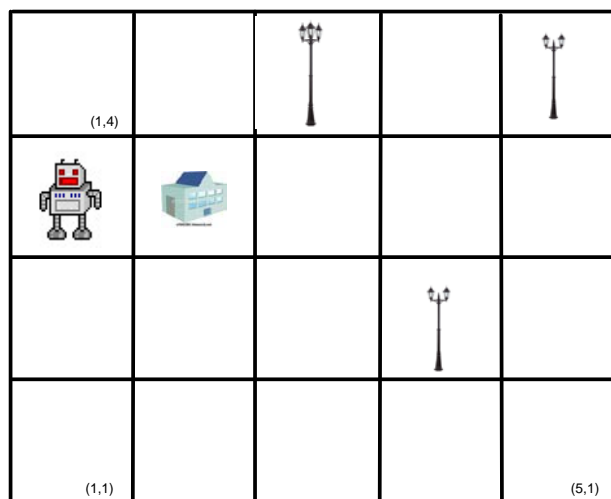

Fig. 1. Example of initial state
We have a robot, several lampposts with blown bulbs and a bulb warehouse, lying on a grid as shown in Figure 1. Each lamppost may have several blown bulbs. The objective is that the robot loads bulbs at the warehouse to replace blown bulbs. The robot must not carry bulbs when all blown bulbs have been replaced.
An example of this initial state is shown in Figure 1. The robot and the warehouse can be located anywhere on the grid; the number of lampposts, their location as well as the number of blown bulbs in each lamppost can be different for a given initial state. The size of the grid can be defined for a given initial state.
The solution to this problem does not need to represent the number of bulbs in each lamppost, only those that have blown. In Figure 1, there are three lampposts with 3, 2 and 2 blown bulbs.
The robot can only move horizontally and vertically, at each movement the robot moves from one cell to the next. There is a maximum number of bulbs the robot can carry. That maximum number of bulbs is the maximum number of blown bulbs in a lamppost at the initial state. For example in Figure 1, the maximum number of bulbs that the robot can carry is 3.
When the robot arrives to a lamppost with blown bulbs, it will be able to fix the lamppost if it is carrying at least as many bulbs as blown bulbs. The replacement of all the blown bulbs in a lamppost is performed with a single rule. It is not possible to replace only some of the blown bulbs in a lamppost, all of them must be replaced at the same time. For example, in Figure 1, the lamppost in cell (4,2) has 2 blown bulbs, so if the robot is carrying 2 or 3 bulbs, then it will replace all blown bulbs with a single rule.
- 2) Perform different evaluation tests to compare the results obtained using breadth and depth search. The evaluation tests must consider different number of lampposts, number of blown bulbs, and location of the robot and lampposts. For each evaluation test, the number of generated nodes and the depth at which the solution is found must be reported. One of these evaluation tests must be that of Figure 1.
- c) The system must return the depth level at which the solution is found. In this way, the breadth strategy must return the shortest solution, that is, that with the minimum number of operations. For example, for the initial state in Figure 1 in which the robot is not carrying bulbs, the optimal solution requires 21 operations.
In Figure 1, assuming that lampposts are visited in the following order (4,2), (3,4) and (5,4), the value of the heuristic function $h(n)$ would be: